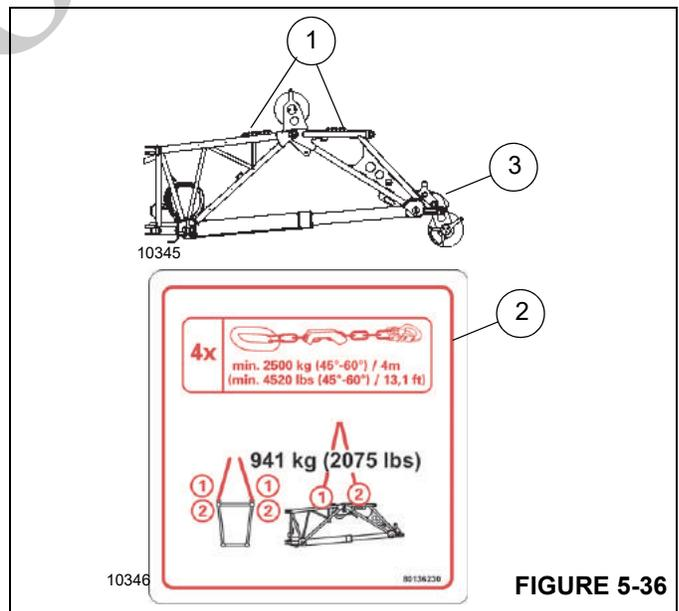

FIGURE 5-36
The optional heavy duty boom extension features four attaching points (1, Figure 5-36). Decals mark the attaching points. The weight information decal (2) shows information about the heavy duty boom extension weight and necessary lifting gear. Tie a tag line to the end of heavy duty boom extension (3) as necessary to guide the section during installation and removal operations.